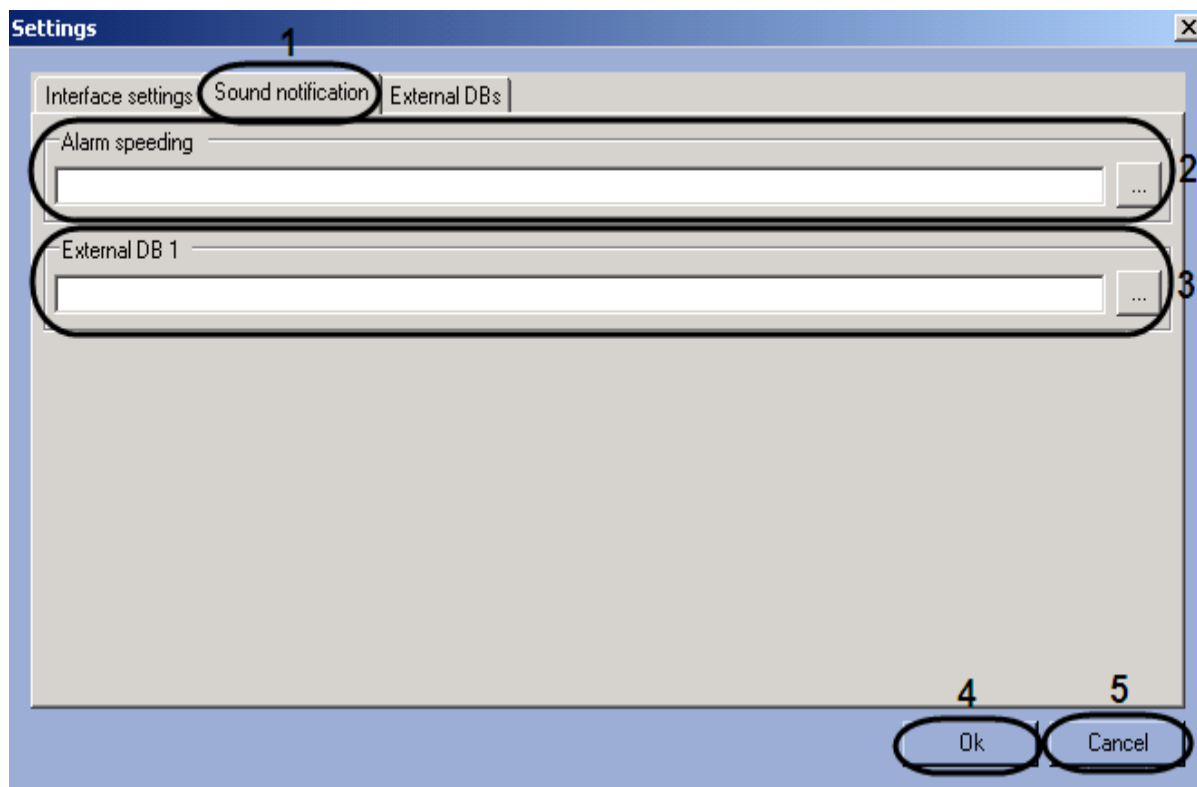

Fig. 7.9—11 Sound files selection
4. To set the sound notification with vehicle's overspeeding click « ... » button on the right of Alarm speed exceeded field (Fig. 7.9—11, 2). In the opened standard dialog window Open the required sound file and then click Open. In result the full path to the fill will be displayed in the field Alarm speed exceeded (Fig. 7.9—11, 2).
5. To set the sound notification while identifying the recognized number in the External Plates Database click t « ... » button on the right of the field, corresponding to the required database (Fig. 7.9—11, 3). In the Open standard dialog window select the required sound file and then click Open. In result the full path to the fill will be displayed in the corresponding field.